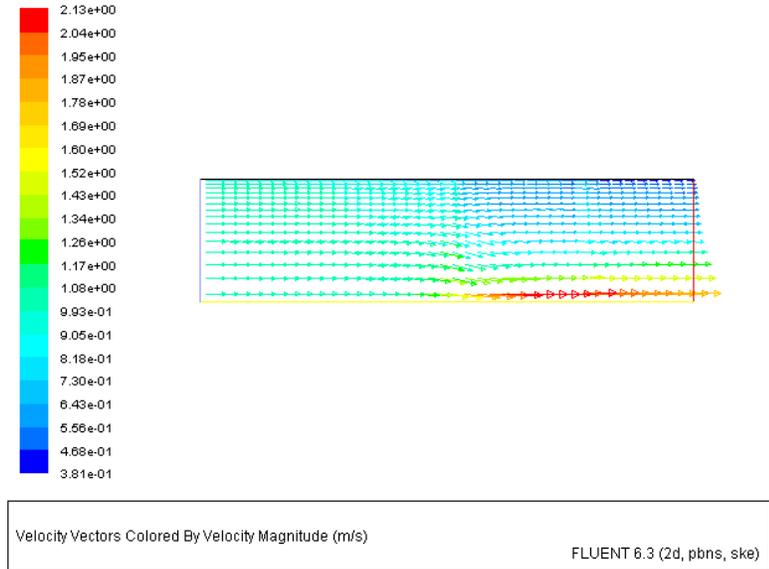

Figure 4: Velocity Vectors Colored by Velocity Magnitude
1. Display velocity vectors (Figure 4).
Figure 4 shows that the fluid flows preferentially near the bottom of the channel due to the effect of the source term on the axial momentum of the fluid.